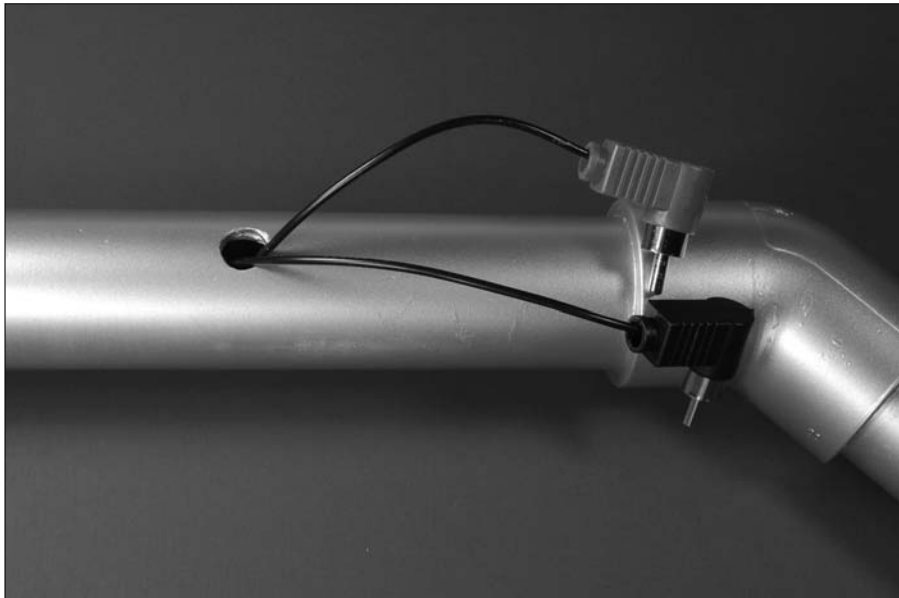

Figure 12-16:
11. Cut the wires to allow three inches to extend from the $\frac{3}{8}$ " hole in the pipe and attach each wire to a right-angle phono plug, as shown in Figure 12-16.